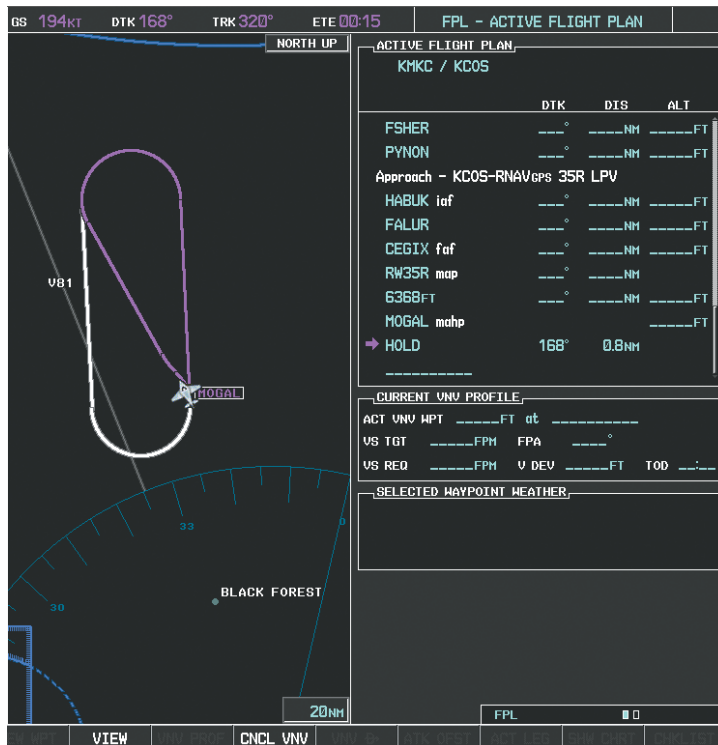

Figure 5-151 Establishing the Holding Pattern
- 26) The aircraft continues climbing to "AT or ABOVE" 10,000 feet at MOGAL. A holding pattern is established at the MAHP (MOGAL) as shown in Figure 5-151.